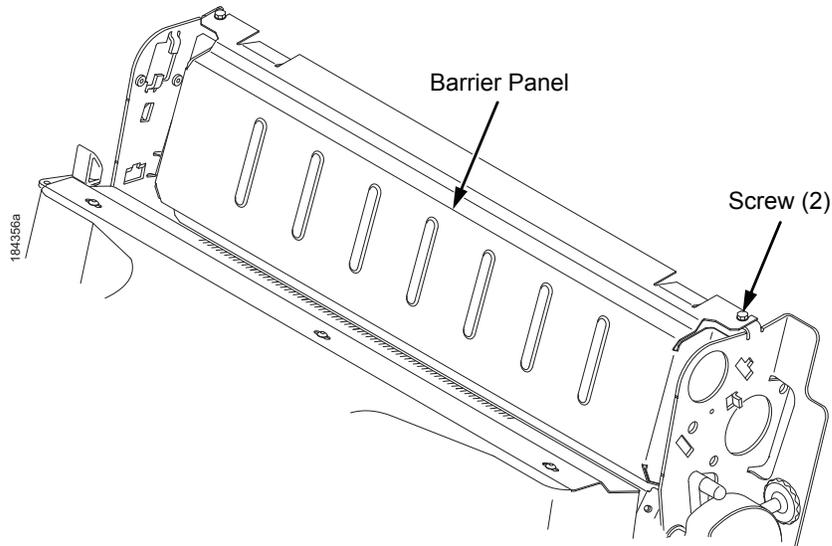

Figure 7. The Barrier Panel
2. Loosen (do not remove) the two #2 Phillips hold-down screws on the rear of the printer. (See page 460, item 4.)
3. Loosen the screws in the top corners of the barrier panel. (See Figure 7.)